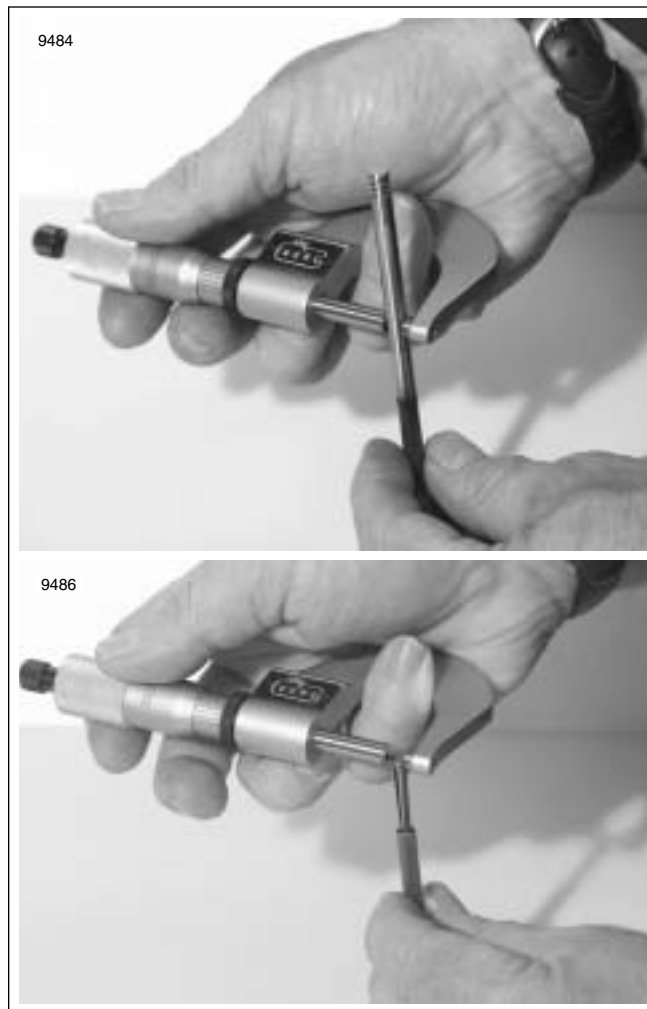

Figure 3-45. Valve Stem and Guide Measurement
10. See Figure 3-45. Measure valve stem diameter and valve guide bore.